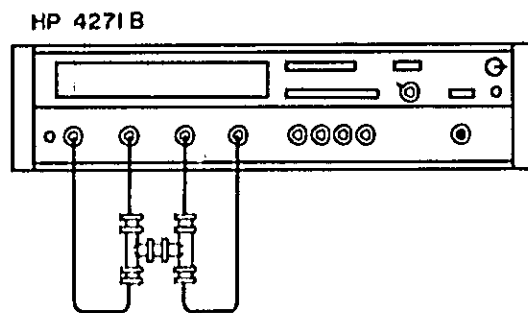

Figure 5-18. L-R OFFSET Counts Adjustment.
- b. Connect Lext, Lint, Hext and Hint terminals as shown in Figure 5-18.